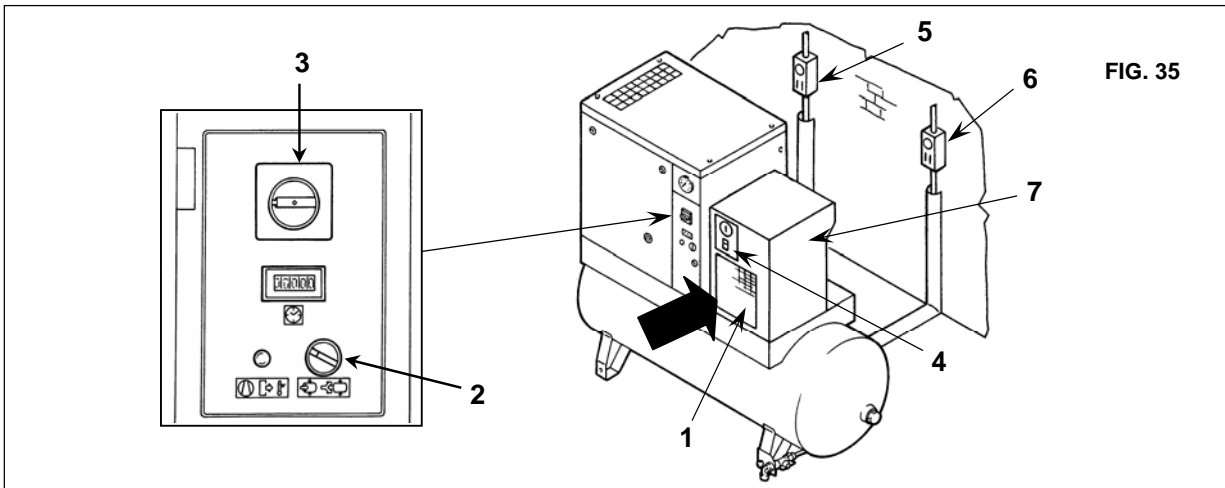

FIG. 35
The condenser must be cleaned every month (Ref. 1 Fig. 35).
- To turn in position " No load " the selector Rif. 2 Fig. 35
- Stop the machine, turning in "OFF" position the isolating switch Ref. 3 Fig. 35.
- Press the button switch Rif. 4 Fig. 35
- Turn on the differential supply switch, Ref. 5 (on the screw-compressor) and Ref. 6 (on the dryer if fitted) Fig. 35
- Remove the cover Ref. 7 Fig. 35
- Clean the condenser fins Ref. 1 Fig. 35 with compressed air (see Fig. 35). **DO NOT USE WATER OR SOLVENTS.**
- Close the cover Ref. 7 Fig. 35.